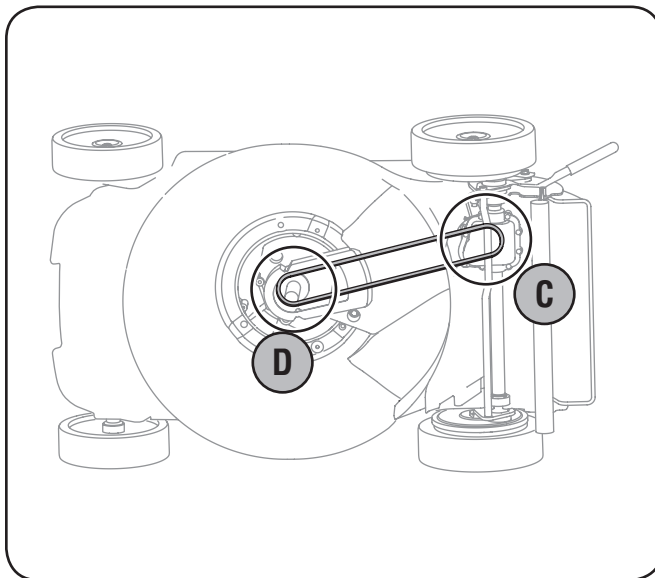

Figure 7-3
- c. Working from the rear of the mower, carefully remove belt from transmission pulley. See Fig. 7-3.
- d. Once belt is off transmission pulley, push down on deck baffle to access engine pulley and slide belt off this pulley and out from under the deck. See Fig. 7-3.